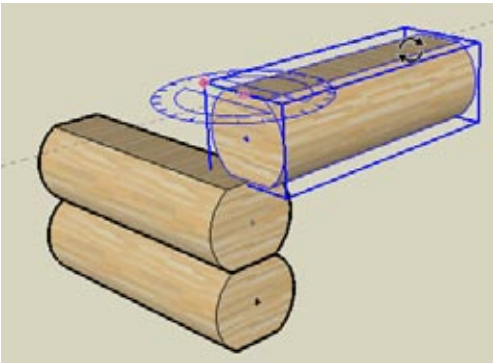

Figure 3-65
1. First you need to rotate and move the top log so that it sits between the bottom two, in order to get the necessary intersection edges. Rotate the top log 90 degrees, using the midpoint of the top edge as the center of rotation (Figure 3-65).